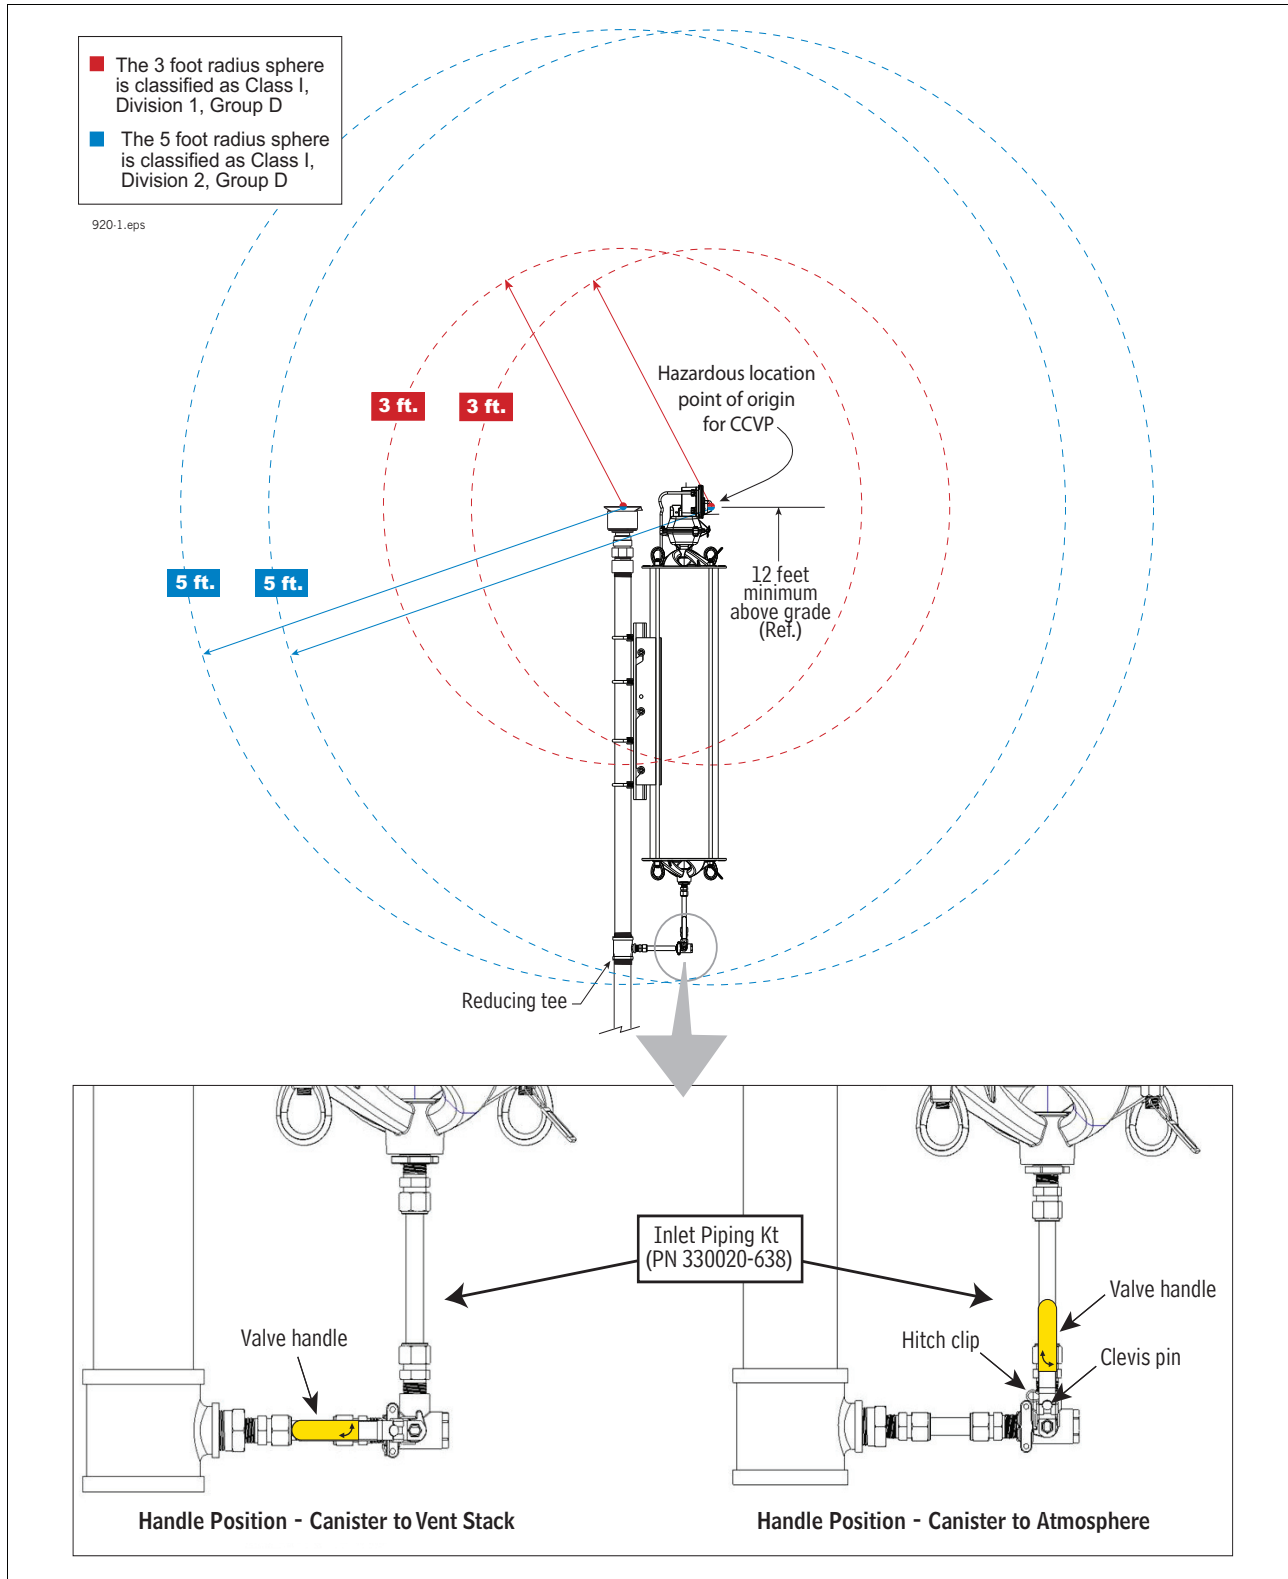

Figure 3. Inlet plumbing detail and classified area definition
- The canister can only be installed in systems with a vapor recovery vent stack fitted with a UL Listed pressure/vacuum (P/V) valve that operates between -8 and +6 inches water column. The outlet of the carbon canister vapor valve has the same classified area requirements as the P/V valve per figure 3 and is subject to approval by the local authority having jurisdiction.
8. Figure 3 shows important Class I Div 1, Group D and Class I Div 2, Group D radius spheres and operability test valve handle positions of the installed canister.
14. Connect all lower fittings, valve and tubing between the vent pipe and the lower manifold on the CCVP (see Figure 3).
15. Confirm ball valve is in the open, canister to vent stack position (per Figure 3), then insert the clevis pin and secure with the hitch pin.
- The Hazardous Location Area Classification shown for the CCVP in Figure 3 must be considered from the point of origin for all offset mountings.